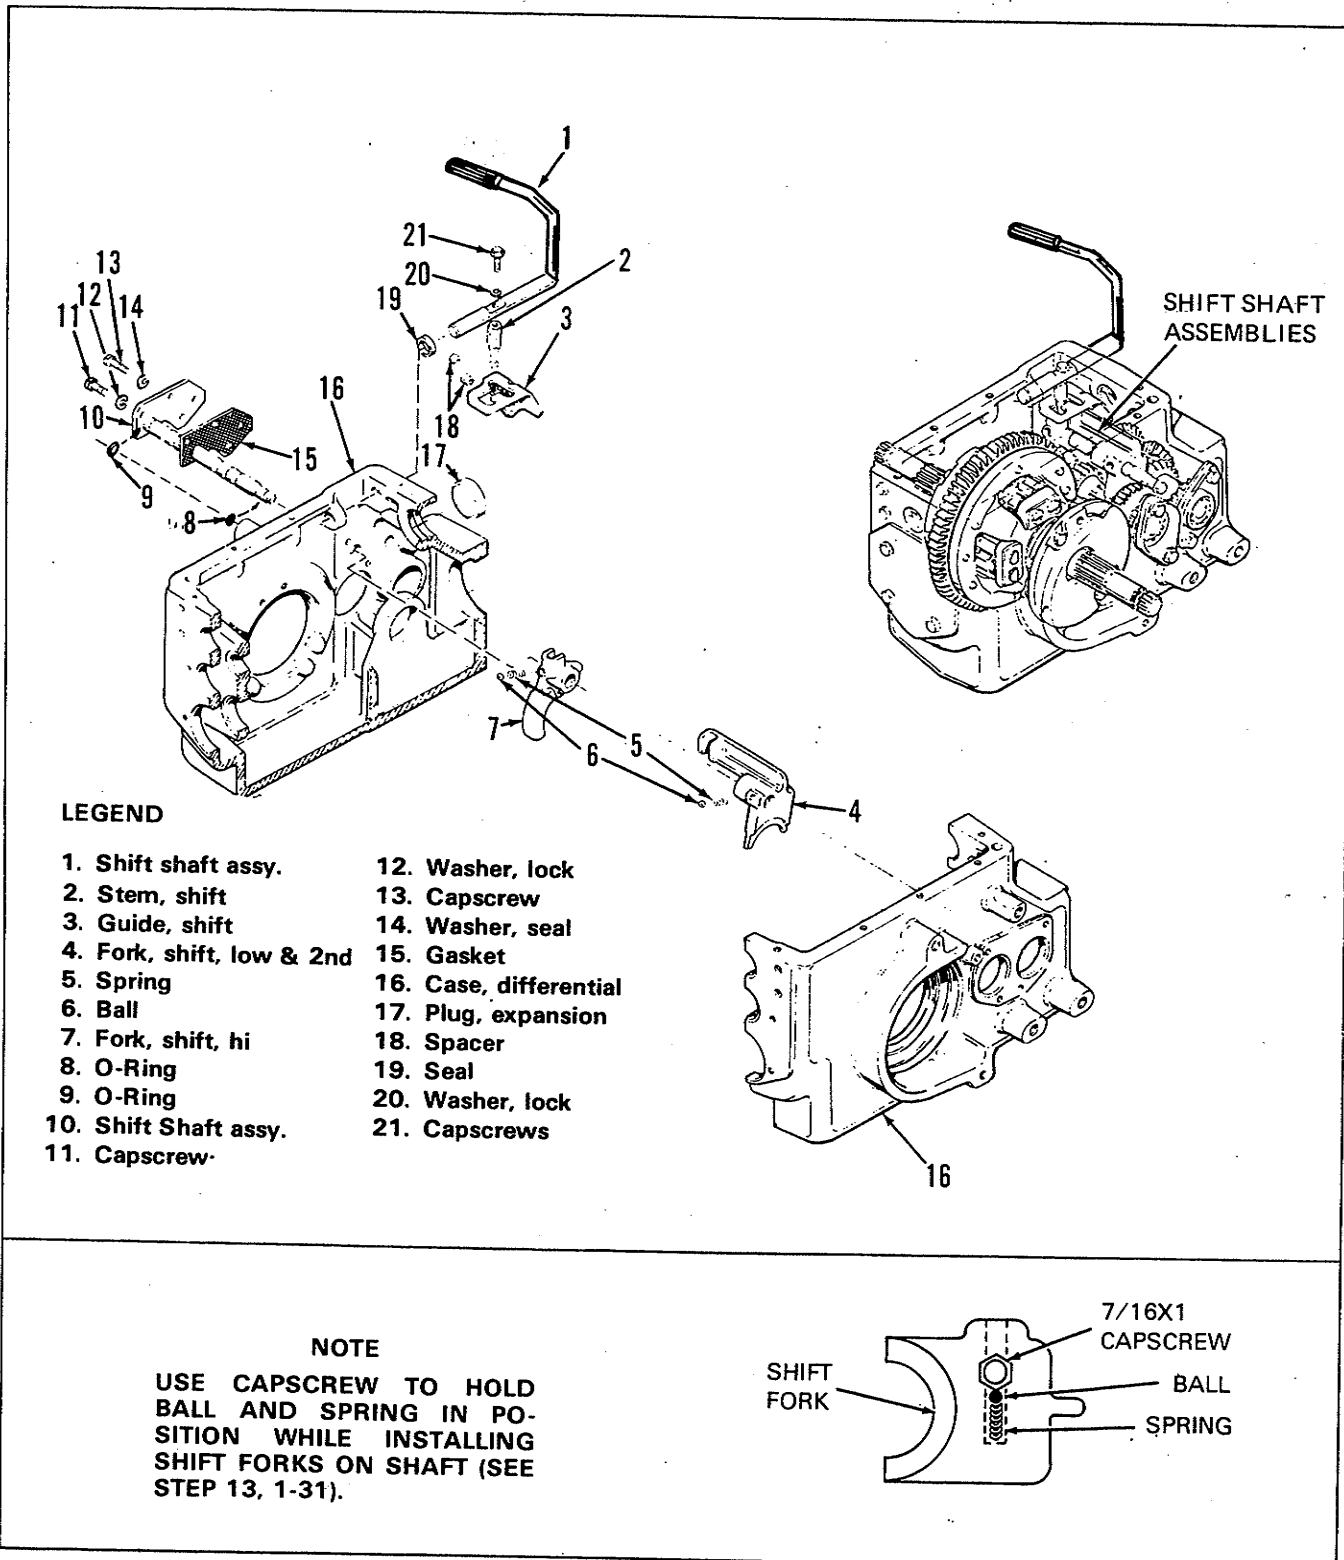

Figure 30. Shift Shaft Assemblies
- c. Remove the 5/16-18 x 1 inch long cap-screw (21, Figure 30) and lockwasher (20) attaching the shift shaft assembly (1) to the shift stem (2). Remove the stem and shaft from the transmission case. Remove and discard the seal (19).
- d. Remove the shift guide (3, Figure 30) and its two spacers (18) by removing the two 1/4-20 x 1 inch long capscrews (13) and lockwashers (14) mounting it to the transmission case.
- e. Remove the two 3/8-16 x 3/4 inch long capscrews (11, Figure 30) and lockwashers (12) holding the shift shaft assembly (10) to the transmission case. Carefully pull the shaft from the left side of the transmission case and remove the two shift forks (7 and 9). Make sure to obtain the springs (5) and balls (6) as they fall from the forks. Remove and discard the o-rings and gaskets.
12. Place a film of grease on the o-rings (8, 9, Figure 30) and install them on the shift shaft assembly (18). Coat the gasket (15) with sealer and install it on the shift shaft assembly. Coat the two spacers (18) with sealer and position them in the transmission case.
13. Insert the spring (5, Figure 30) and ball (6) in the shift fork (7) and hold them in place with 7/16 x 1 inch bolt. Position the fork inside the transmission case, and then, insert the shift shaft through the transmission case and shift fork. Remove the bolt as the shaft passes over the ball. Insert the remaining spring and ball in the shift fork (4) and install on the shift shaft as outlined above.
14. Secure the shift shaft assembly with the two 3/8-16 x 3/4 inch long capscrews (11, Figure 30), coated with sealer, and the two lockwashers (12).
15. Install the shift guide (3, Figure 30) with the two 1/4-20 x 1 inch long capscrews (13) and lockwashers (14).
16. Install a new seal (19, Figure 30) in the transmission case. Align the shift stem (2) through the shift guide on the shift shaft assembly (1). Secure the stem on the shaft with the 5/16-18 x 1 inch long capscrew (21) and lockwasher (20).